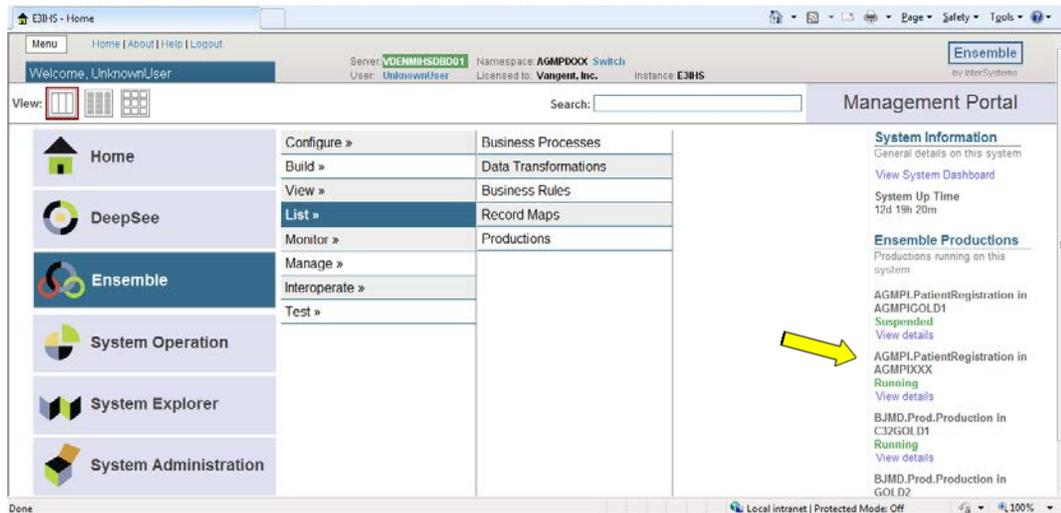

Figure 9-16: **Management Portal** page showing the **AGMPI.PatientRegistration** production instance with a status of Running
- For an alternative view of the currently running production, click **Ensemble** to display the production instance table on the **Management Portal** page, as shown in Figure 9-16.